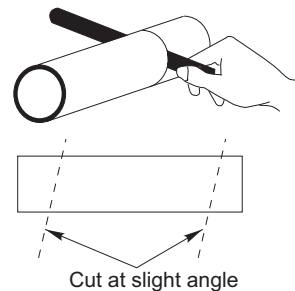

Fig. 2-195
- (5) Measure the thickness of the wall from the inside edge to the outside edge and cut PVC pipe at a slight angle 6 mm shorter than the thickness of the wall. (Fig. 2-195)